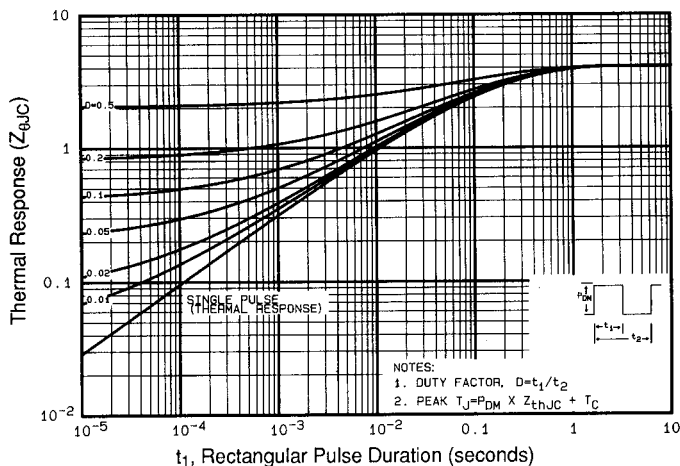

Fig 11. Maximum Effective Transient Thermal Impedance, Junction-to-Case
- ① Repetitive rating; pulse width limited by max. junction temperature (See Figure 11) ③ $I_{SD} \leq 17A, di/dt \leq 140A/\mu s, V_{DD} \leq V_{(BR)DSS}, T_J \leq 175^\circ\text{C}$ ⑤ $t=60s, f=60\text{Hz}$
- ② $V_{DD}=25V$, starting $T_J=25^\circ\text{C}, L=595\mu H$ ④ Pulse width $\leq 300\mu s$; duty cycle $\leq 2\%$